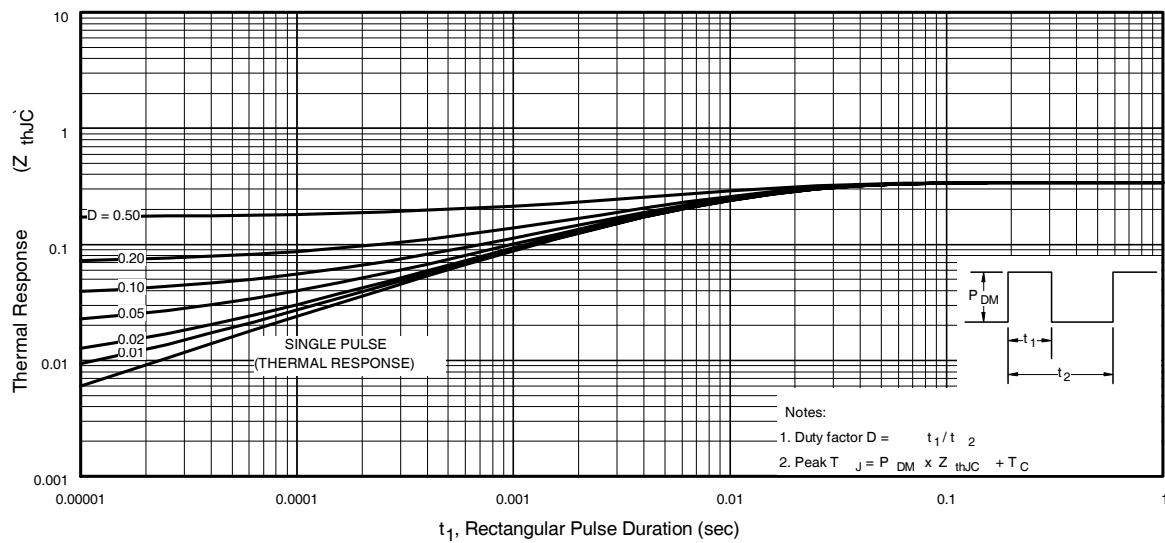

Fig 12. Maximum Effective Transient Thermal Impedance, Junction-to-Case
- ② Starting $T_J = 25^\circ\text{C}$, $L = 1.5\text{mH}$, $R_G = 25\Omega$, $I_{AS} = 23\text{A}$, $dV/dt = 21\text{V/ns}$. (See Figure 12).
- ③ $I_{SD} \leq 23\text{A}$, $dI/dt \leq 650\text{A}/\mu\text{s}$, $V_{DD} \leq V_{(\text{BR})\text{DSS}}$, $T_J \leq 150^\circ\text{C}$.
- ④ Pulse width $\leq 300\mu\text{s}$; duty cycle $\leq 2\%$.
- ⑤ $C_{oss \text{ eff.}}$ is a fixed capacitance that gives the same charging time as C_{oss} while V_{DS} is rising from 0 to 80% V_{DSS} . $C_{oss \text{ eff. (ER)}}$ is a fixed capacitance that stores the same energy as C_{oss} while V_{DS} is rising from 0 to 80% V_{DSS} .